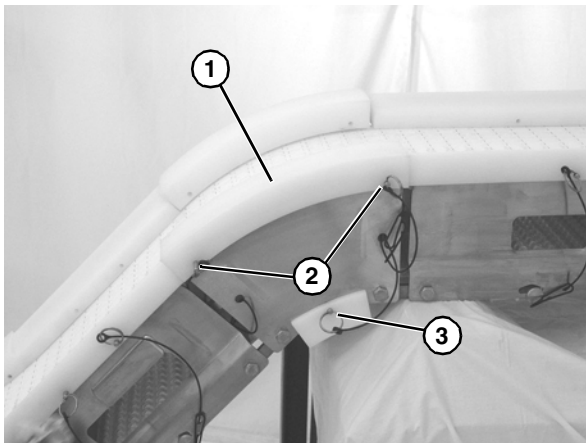

Figure 9
1. Slide belt (Figure 9, item 1) over knuckles on top of the wear strips.